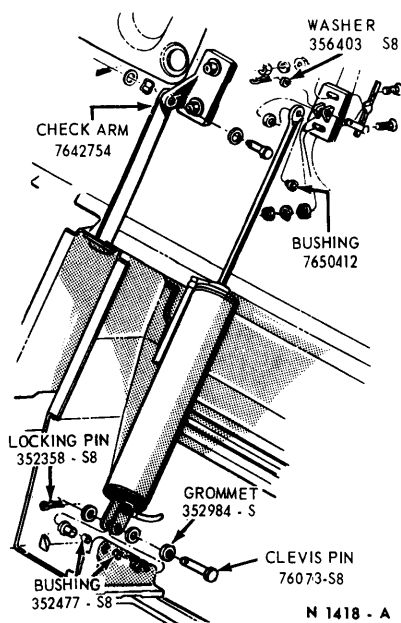

FIG. 33—Luggage Compartment Door Lift Cylinder Installation
4. Remove the locking pin, washers, clevis pins, grommets and bushings from the cylinder lower pivot (Fig. 33).
8. Position the hydraulic cylinder to the lower pivot bracket and install the bushings, grommets, clevis pin, washers, and locking pin (Fig. 33).